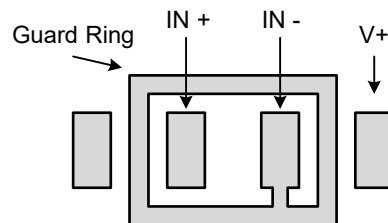

Figure 8-7. Guard Ring
6. Make sure the surface of the printed circuit board is clean and moisture-free. Use a surface coating to prevent moisture accumulation and help reduce parasitic resistance on the printed circuit board. Consider setting a low impedance guard ring (as shown in Figure 8-7) for the driver around the critical trace. The guard ring can significantly reduce the leakage current of nearby traces at different potentials.